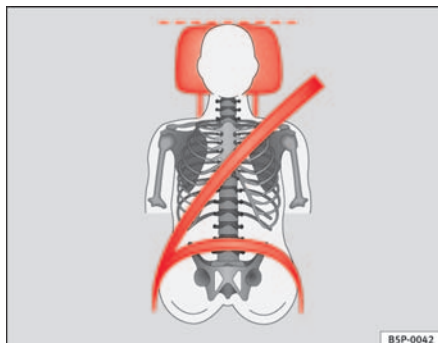
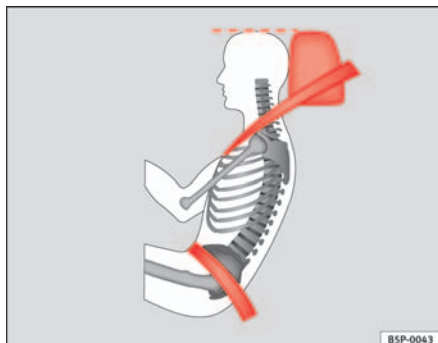

Fig. 3 Properly adjusted head restraint viewed from the front
Fig. 4 Properly adjusted head restraint viewed from the side
- Adjust the head restraint so that its upper edge is at the same level as the top of your head, or as close as possible to the same level as the top of your head and, at the very least, at eye level ⇒ fig. 3 and ⇒ fig. 4